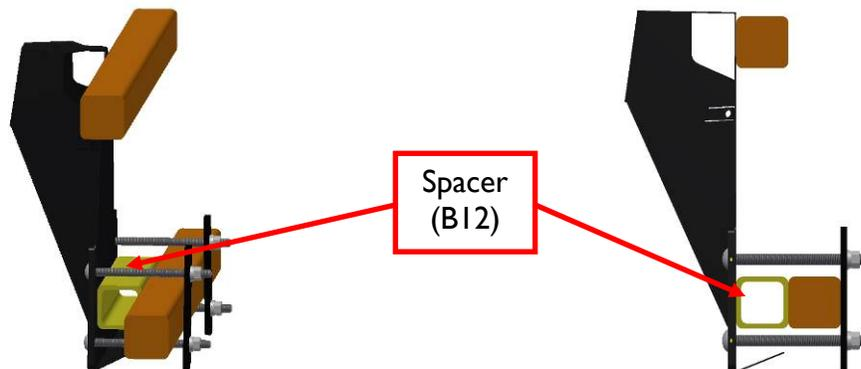

Figure 9: Spacer Placement
2. Typically the best mounting location for the wing sensor brackets will be near the end of the boom tips, approximately two feet (60cm) from the end. Use spacers (B12) to mount the brackets (**Figure 9**).